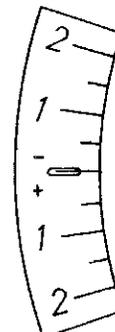

Fig. 3
4. Depress the key 4 of the synchro test unit. Press the white button of the calibrating unit. The  $\equiv$  (single dash) mark must appear on the 0 (zero) division of the scale. The delay is then 18 milliseconds (see fig. 3).
With the 5 mm. dia. screw driver adjust the screw on the potentiometer marked No. 4. Turn this screw to the left or right until, on pressing the white button of the calibrating unit, the — (single dash) mark appears at the correct point of the scale as shown in fig. 3.